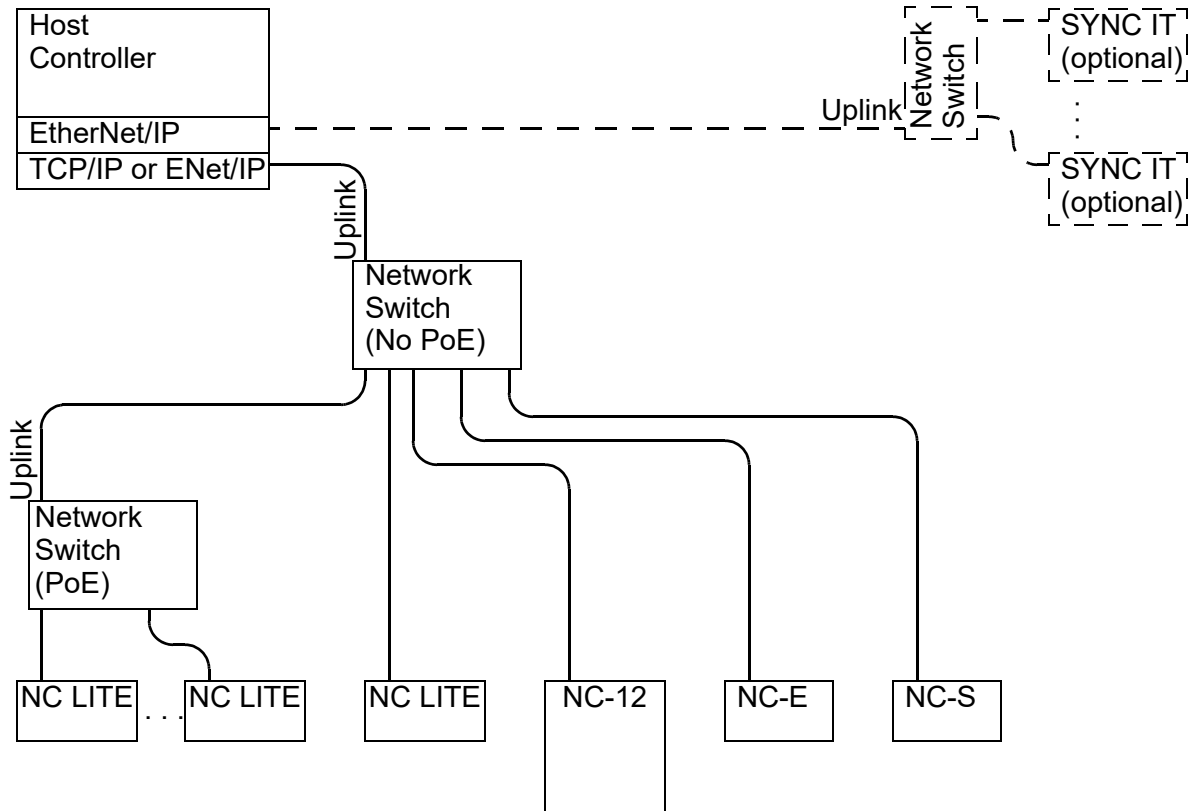

Figure 5-9: Network Wiring
The node controllers use communication over an Ethernet network with a host controller for transport system control and for communication between node controllers. The following procedure provides the information that is required to make all network communications and Power over Ethernet connections to the node controllers as shown in Figure 5-9.
NOTE: When using multiple network switches to connect all node controllers, use one switch as a master and connect all other switches to it as shown in Figure 5-9.
When using multiple MagneMotion Power over Ethernet network switches, connect the Uplink from each switch to a master switch as shown in Figure 5-9, do not daisy chain these switches.
When using the optional SYNC IT controllers, use a network switch that is dedicated to those controllers connected directly to the EtherNet/IP™ port on the PLC dedicated to synchronization as shown in Figure 5-9.
2. Connect a cable for network communications from the network switch to each node controller as shown in Figure 5-9.